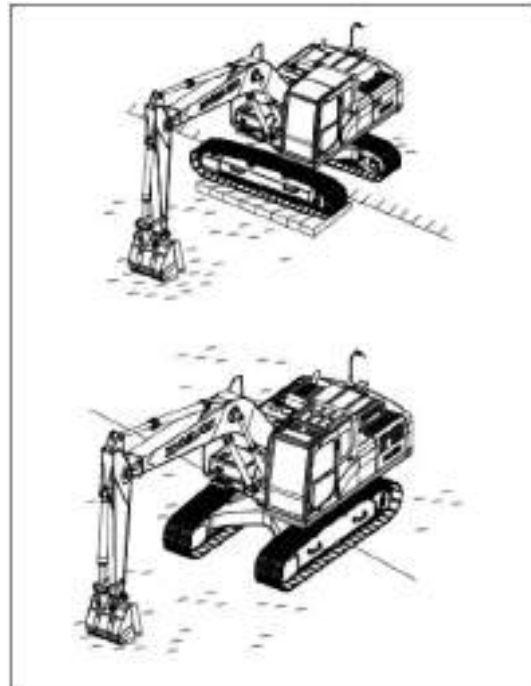

Figure 4-48 Escape from mud
2. If only one track has fallen into the mud, lift the crawler with the bucket, and then pad wood or logs to drive the machine out of the mud. If necessary, also place wood under the bucket, as shown in Figure 4-48.
If both tracks are in the mud, slip and can not move, pad logs or timbers as described above. Dig the bucket into the ground in front, operate the arm in the same way as digging operation and move the traveling lever to the forward position to pull out the machine, as shown in Figure 4-48.